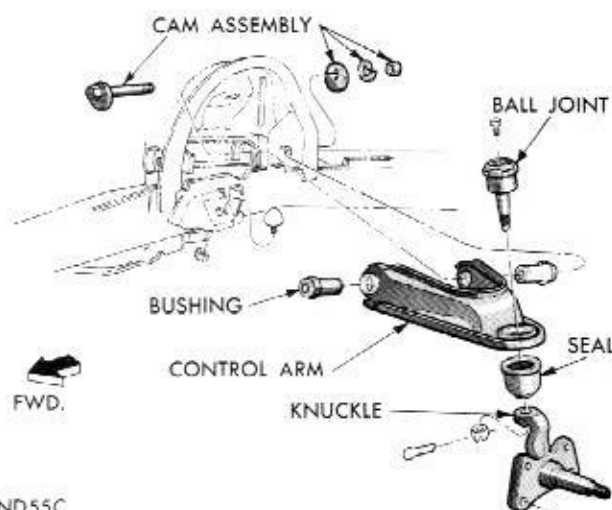

Fig. 13—Upper Control Arm (Coronet-Charger)
UPPER CONTROL ARM (Fig. 13)
attaching upper control arm and bushings (Fig. 13), to support brackets. Lift control arm up and away from support.
(1) Slide control arm into position and install cam bolts, cams, washers and nuts (Fig. 13). Tighten nuts in preparation for final adjustments.
(2) Slide upper ball joint stud into position in steering knuckle and install nut. Tighten nut 100 foot-pounds. Install cotter pin and lubricate ball joint. Tighten lower stud nut 85 foot-pounds.
(3) Install wheel and tire. Adjust wheel bearing